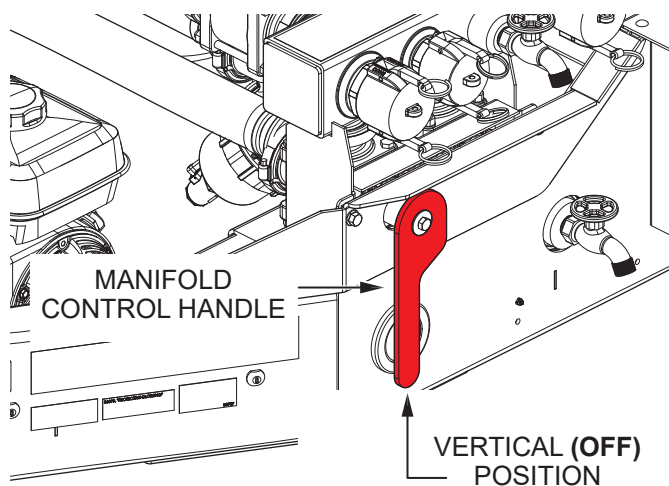

Figure 9. Manifold Control Handle (OFF)
1. Place the **manifold control handle** in the **OFF** (vertical) position. See Figure 9.